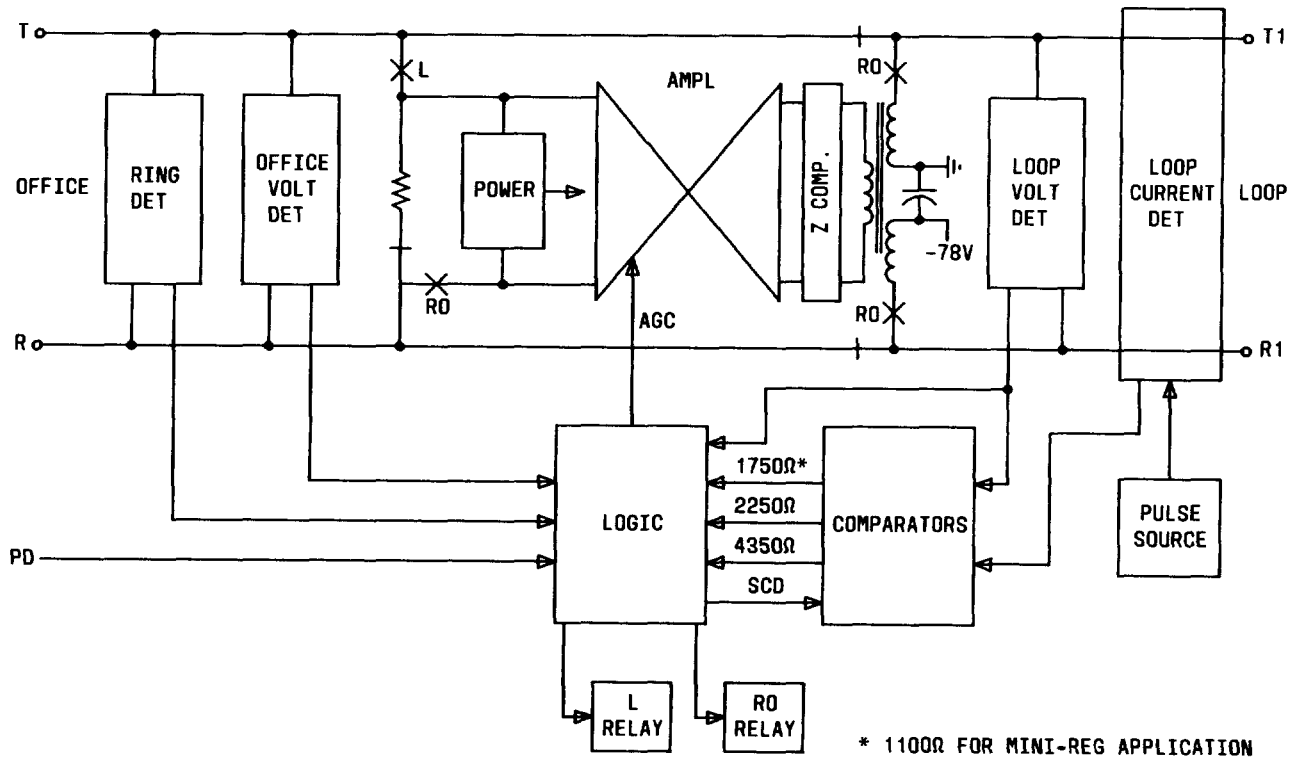

Fig. 4—7A REG Block Diagram
4.01 Figure 4 is a block diagram of the 7A REG. The VF amplifier is an electronic hybrid